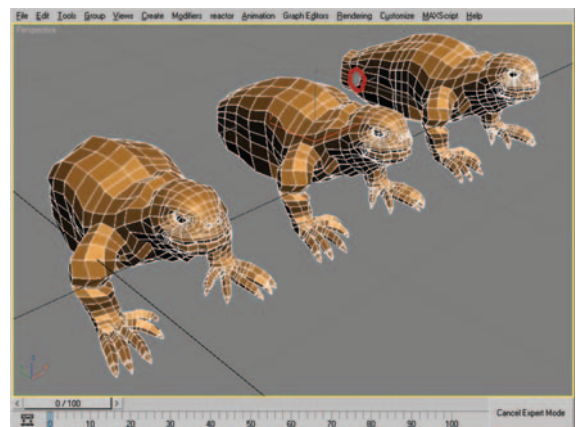

Figure 9.76 Mesh in various stages. Body has been extended and a leg opening created.
39. Once the body is blocked in, use the technique we used at the beginning of this exercise to create the rear leg opening (steps 3 through 7). Figure 9.76 shows the base mesh and the mesh after extending the body and adding the leg hole.